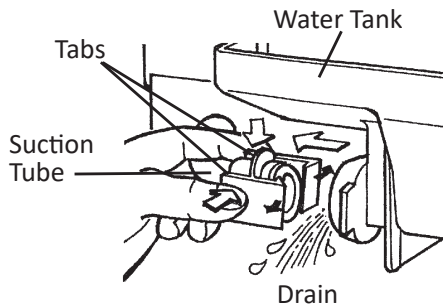

Fig. 34
- 6) Inside the ice storage bin, disconnect the suction tube by squeezing the tabs and pulling the tube clear. See Fig. 34. Allow the water tank to drain.